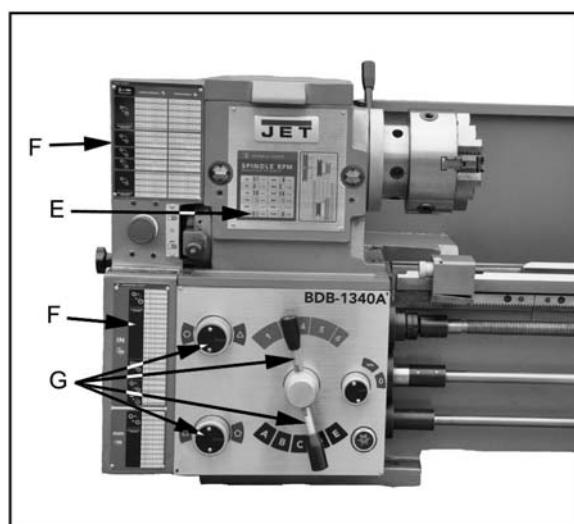

Figure 21
To change speeds, disconnect the lathe from the power source and remove the tension by pulling handle (C, Fig. 20) forward. Move the belts (D, Fig. 20) to the desired location according to the speed selection chart (E, Fig. 21). Tension the belts by moving the handle towards the rear.
1. Reference the feed and thread tables (F, Fig. 21).
2. Move levers and knobs (G, Fig. 21) to the appropriate position.